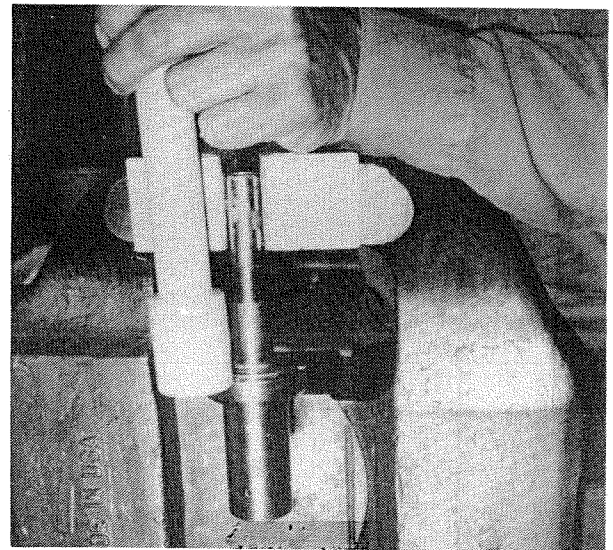

FIGURE 5-21
J. CLAMP THE SWIVEL UPRIGHT IN A VISE, ON THE SHAFT ABOVE THE THREADED PORTION AS SHOWN IN FIGURE 5-21. PLACE A PIECE OF WOOD OR OTHER NON-METALLIC MATERIAL AGAINST THE SWIVEL BODY, (#1), OUTSIDE OF THE BEARING RACE AND STRIKE WITH A HAMMER AS SHOWN IN FIGURE 5-21.